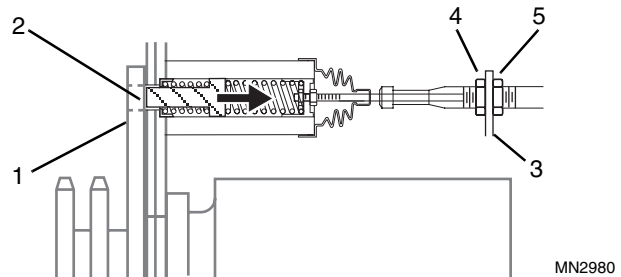

Figure 7-87 Park Lock Cable Chassis Mount
3. Remove both side chain case access covers, if not already removed, to gain access to the drive sprocket (Fig. 7-87, 1) and the end of the park lock pin (2).
4. Inspect both park lock cables where they mount to the chassis (Fig. 7-87, 3). An equal number of threads should be visible on each side of the bulkhead nuts (4 & 5) on each cable. If not, readjust the bulkhead nuts as required until they are equal.
10. If either pin cannot be adjusted using Steps 5 through 9, loosen the cable housing bulkhead nuts (Fig. 7-87, 4 & 5), reposition the cable slightly and tighten the bulkhead nuts (4 & 5). Repeat Steps 5 through 9.